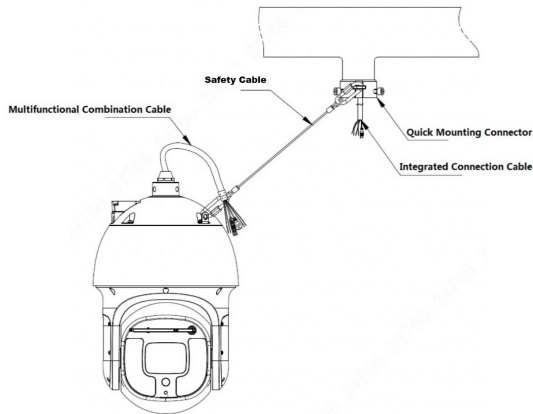

Figure 2-1
**Step 2** Clip one side of the safety cable on the speed dome and the other side on the quick mounting connector. See Figure 2-1.